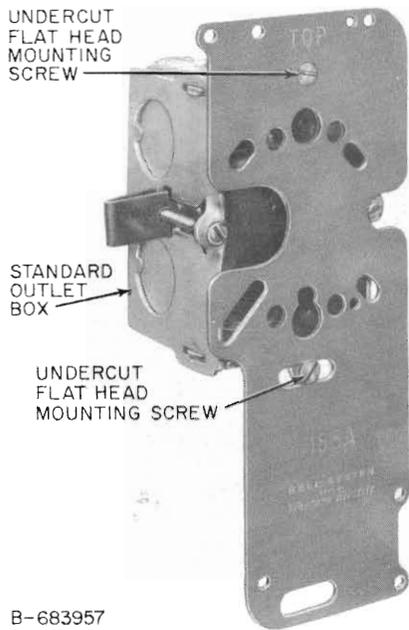

Fig. 6—155A Adapter (Current Model) Mounted on a Standard Electrical Outlet Box Using Top Mounting Holes
3.02 Fig. 6 and 7 show the two methods of attaching a 155A adapter to a standard electrical outlet box.